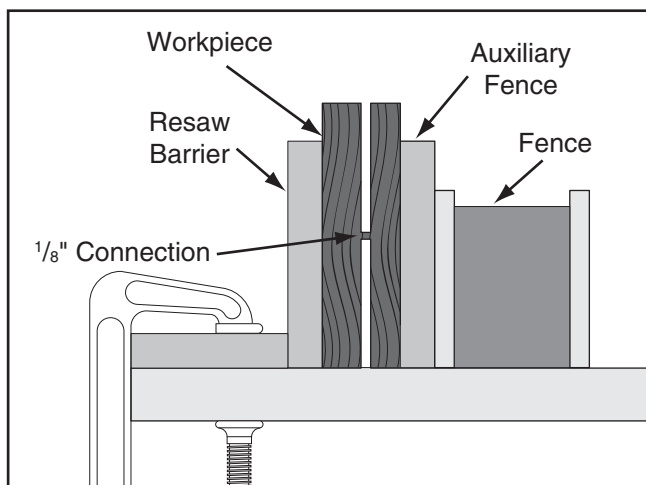

Figure 78. Ideal completed resaw cut.
- Raise the blade approximately an inch, or close to half the height of the workpiece (**Figure 78**), whichever is less.
- Repeat **Steps 7–9** until the blade is close to half of the height of the board to be resawn. The ideal completed resaw cut will leave an $\frac{1}{8}$ " connection when the resawing is complete as shown in **Figure 78**. Leaving an $\frac{1}{8}$ " connection will reduce the risk of kickback.